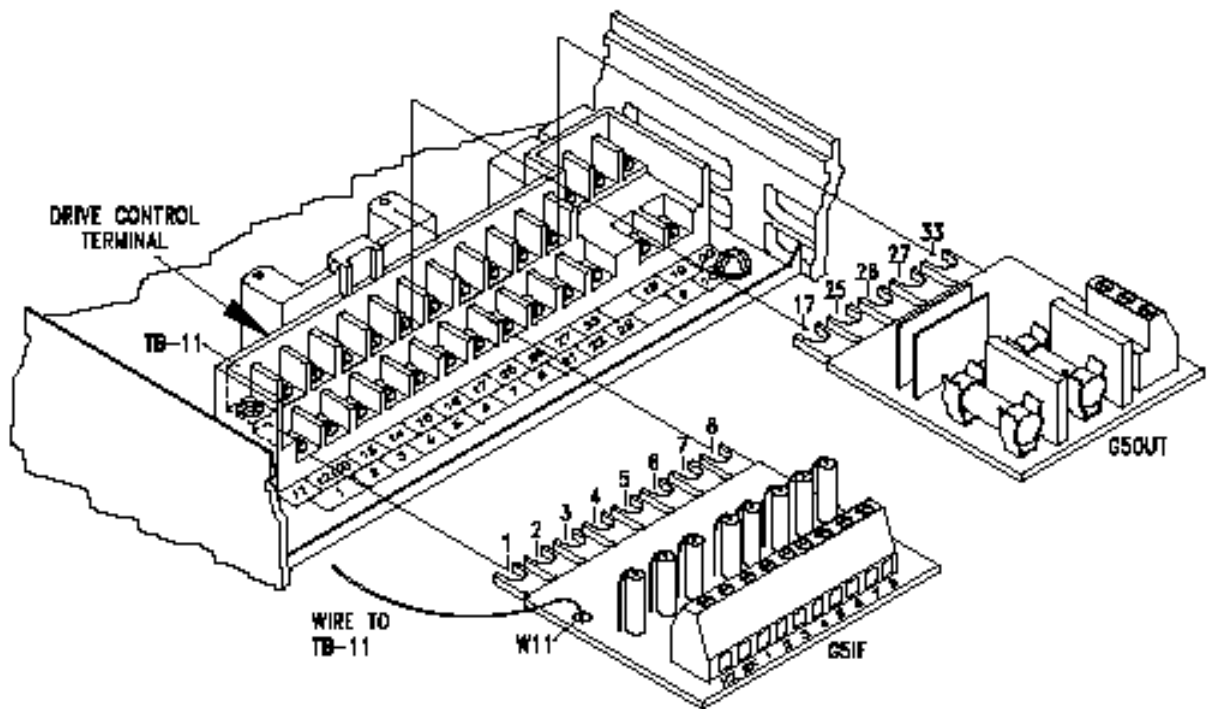

Figure 3-5: Interface Cards
- Install G5OUT card to the drive as indicated in Figure 3-5 “Interface Cards” on page 3-14.
5. Connect the G5IF common lead (blue wire W11) to Terminal 11 on the drive control terminal. Refer to Figure 3-5 “Interface Cards” on page 3-14.
8. Reattach the G5IF card to the lower-level control board Terminals 1 through 8. (Refer to Figure 3-5 "Interface Cards" on page 3-14.)
9. Reattach the G5OUT card to top-level control board Terminals 17, 25, 26, 27, and 33. (Refer to Figure 3-5 "Interface Cards" on page 3-14.)